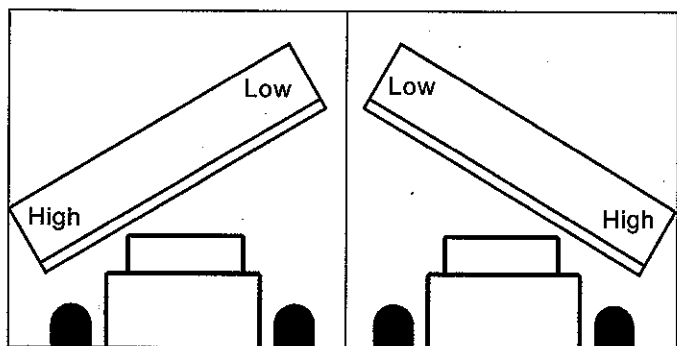

figure 4
- figure 4, retract tilt cylinders.